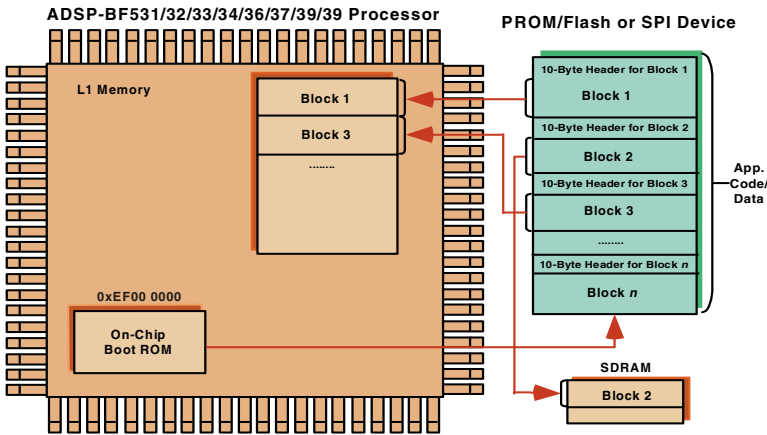

Figure 3-2. ADSP-BF531/BF532/BF533/BF534/BF536/BF537/BF538/BF539 Processors: Booting Sequence
3. The NOBOOT bit, if bit 4 of the SYSCR register is not set, performs the full boot sequence (Figure 3-2).
The loader utility converts the application code (.dxe) into the loadable file by parsing the code and creating a file that consists of different blocks. Each block is encapsulated within a 10-byte header, which is illustrated in Figure 3-2 and detailed in the following section. The headers, in turn, are read and parsed by the on-chip boot ROM during booting.